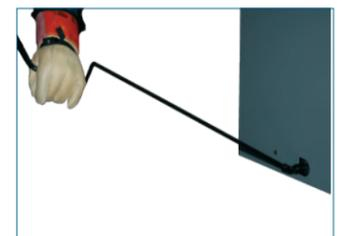

Figure 38: Racking of circuit breaker with door closed
1. Insert the racking crank on the racking screw on the front of the circuit breaker cell, and push in (refer to "Racking crank engagement procedure" on page 78). This action operates the racking interlock latch. Figure 38: Racking of a circuit breaker with door closed shows racking of a circuit breaker.